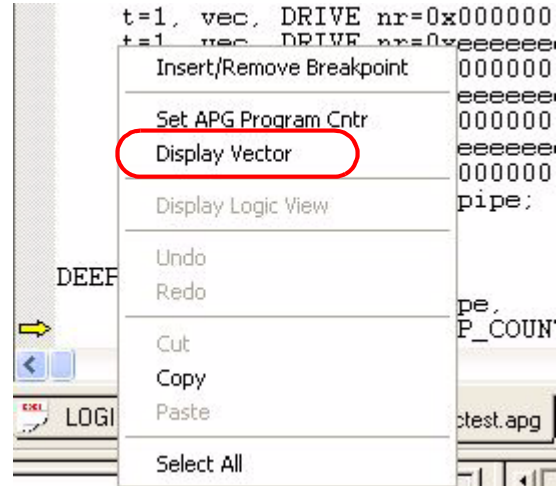

Figure 5-55. Pattern Source Code Pane Pop-Up Menu
- 5 Positioning the cursor in a vector and right-clicking displays a pop-up menu with commands that are available in the Pattern Source Code Pane (Figure 5-55).